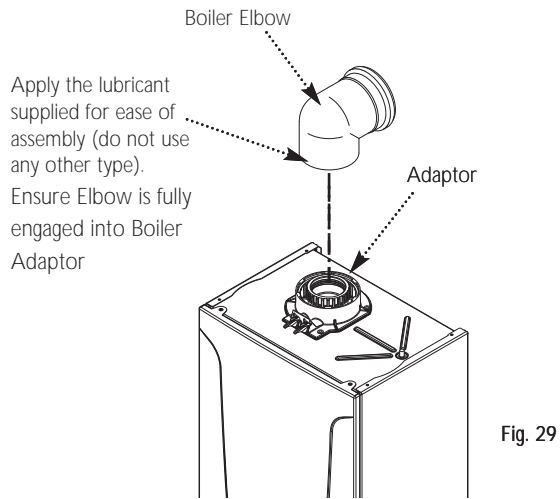

Fig. 29
10. Remove the flue elbow and insert the flue through the hole in the wall. Fit the flue trims if required, and refit the elbow to the boiler adaptor, ensuring that it is pushed fully in (Fig. 29).